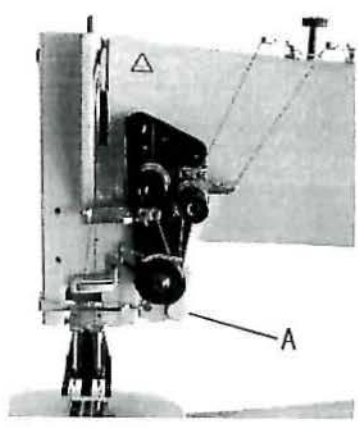

Fig.17
12.REVERSE STITCHING (Fig. 17)
To feed the work toward you, press the button A (Fig. 17)